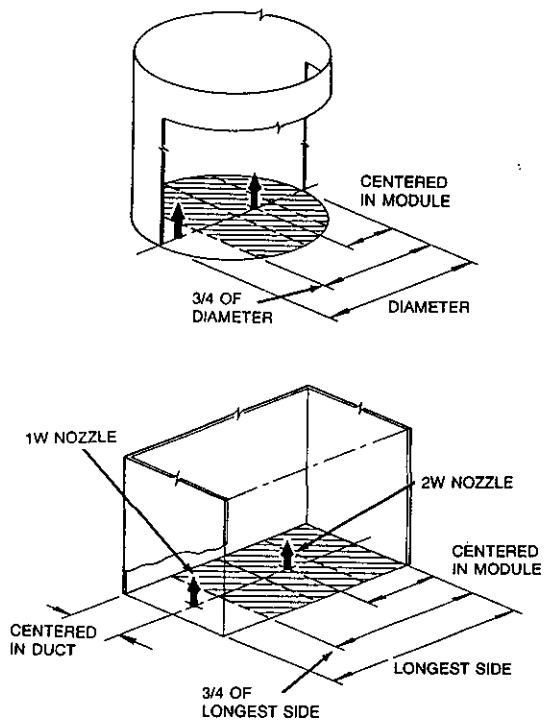

FIGURE 12
- The 2W nozzle (Part No. 419337) is then centered in the remaining three modules. See Figure 12.